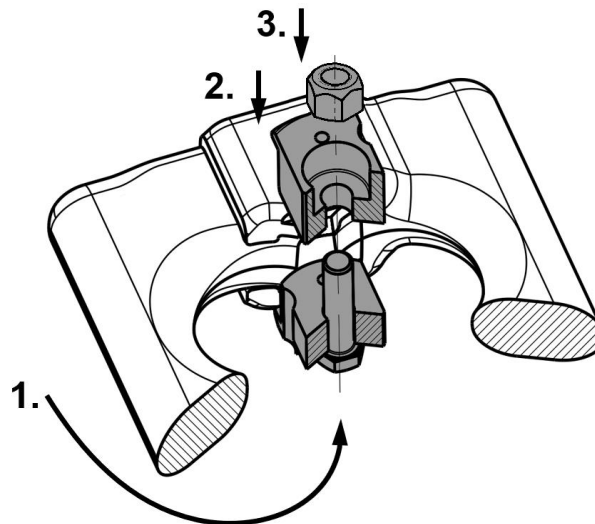

Figure 3: Lock assembly
- Move the lower lock half with the preassembled screw from the bottom into the connector (step 1, Figure 3) and position it on a pad or flat surface.
- Place the upper lock half (step 2, Figure 3) centrally above the lower lock half. Take care, that the holes to accept the dowel pins align correctly.